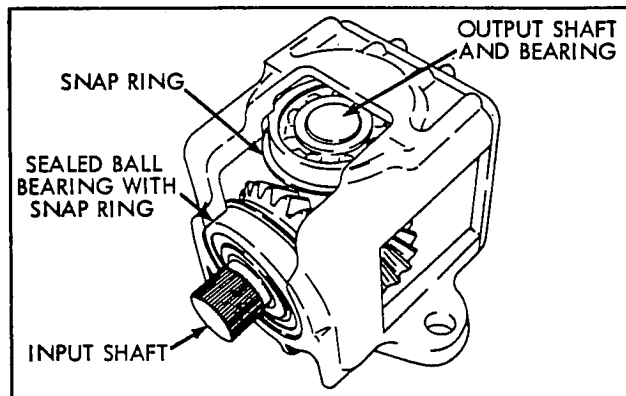

Figure 9-3 Input Shaft Removal
- (c) The input shaft bearing, input shaft and bevel gear may now be driven out of the housing. Use tool 27569 (Figure 9-3). Press bearing into housing to remove.
- (d) The top ball bearing in the blind end of the housing (Figure 9-3) is removed by either heating the housing on a hot plate or tapping the housing on the outside with a mallet.
Assemble in reverse of the disassembly instructions. It is important that only ball bearings with snap rings (Figure 9-3) be used for the input shaft and top output shaft bearing. Use tool 27569 for driving in bearings. In the event bearing bore is tight in housing, heat housing on hot plate. Place a steel plate on the hot plate and rest housing on steel plate. Do not overheat. Work rapidly after removing housing from hot plate. Use care to prevent burns.